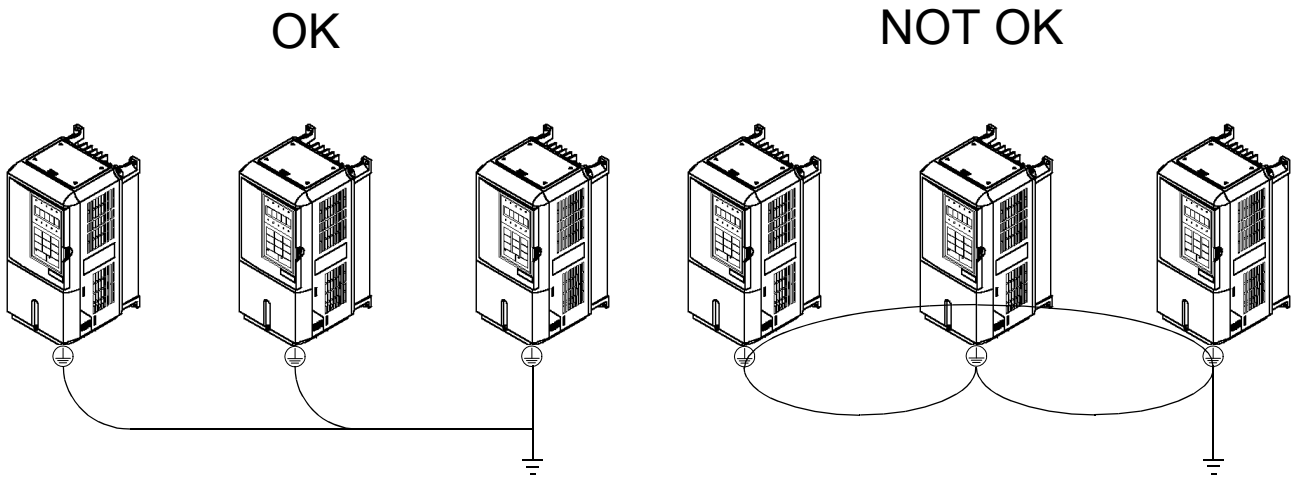

Fig 2.2 Ground Wiring Examples
- 5. When using more than one Drive, be careful not to loop the ground wire. See Fig 2.2.